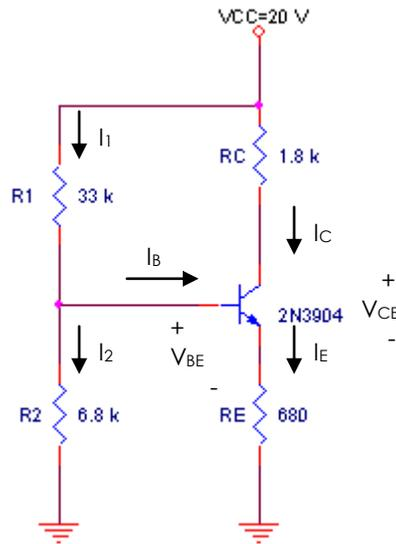

Fig. 5.2
1. Measure all resistor values ( $R_1$ ,  $R_2$ ,  $R_B$  and  $R_C$ ) from circuit in Fig. 5.2 using DMM. Record them.
2. Using the  $\beta$  determined for 2N3904 transistor in Part B, calculate the theoretical values of  $V_B$ ,  $V_E$ ,  $I_E$ ,  $I_C$ ,  $V_C$ ,  $V_{CE}$  and  $I_B$  for the network shown in Fig. 5.2. Record them in Table 5.3.
3. Construct the network of Fig. 5.2 and measure  $V_B$ ,  $V_E$ ,  $V_C$  and  $V_{CE}$ . Record them in Table 5.3.
Using PSPICE Simulation, find the values of  $V_B$ ,  $V_E$ ,  $V_C$ ,  $V_{CE}$ ,  $I_C$ ,  $I_B$  and  $I_E$  for the circuit in *Fig. 5.2*. Compare the values obtained from PSPICE with the experimental ones.